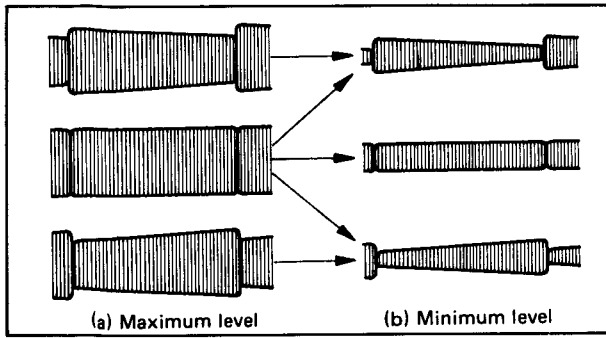

Fig. 4-52 Correct waveform
- Vary the Tracking control from maximum to minimum FM output. The waveform variation should be nearly parallel as shown in Fig. 4-52. If not, repeat section 4.9.2 and 4.9.3.